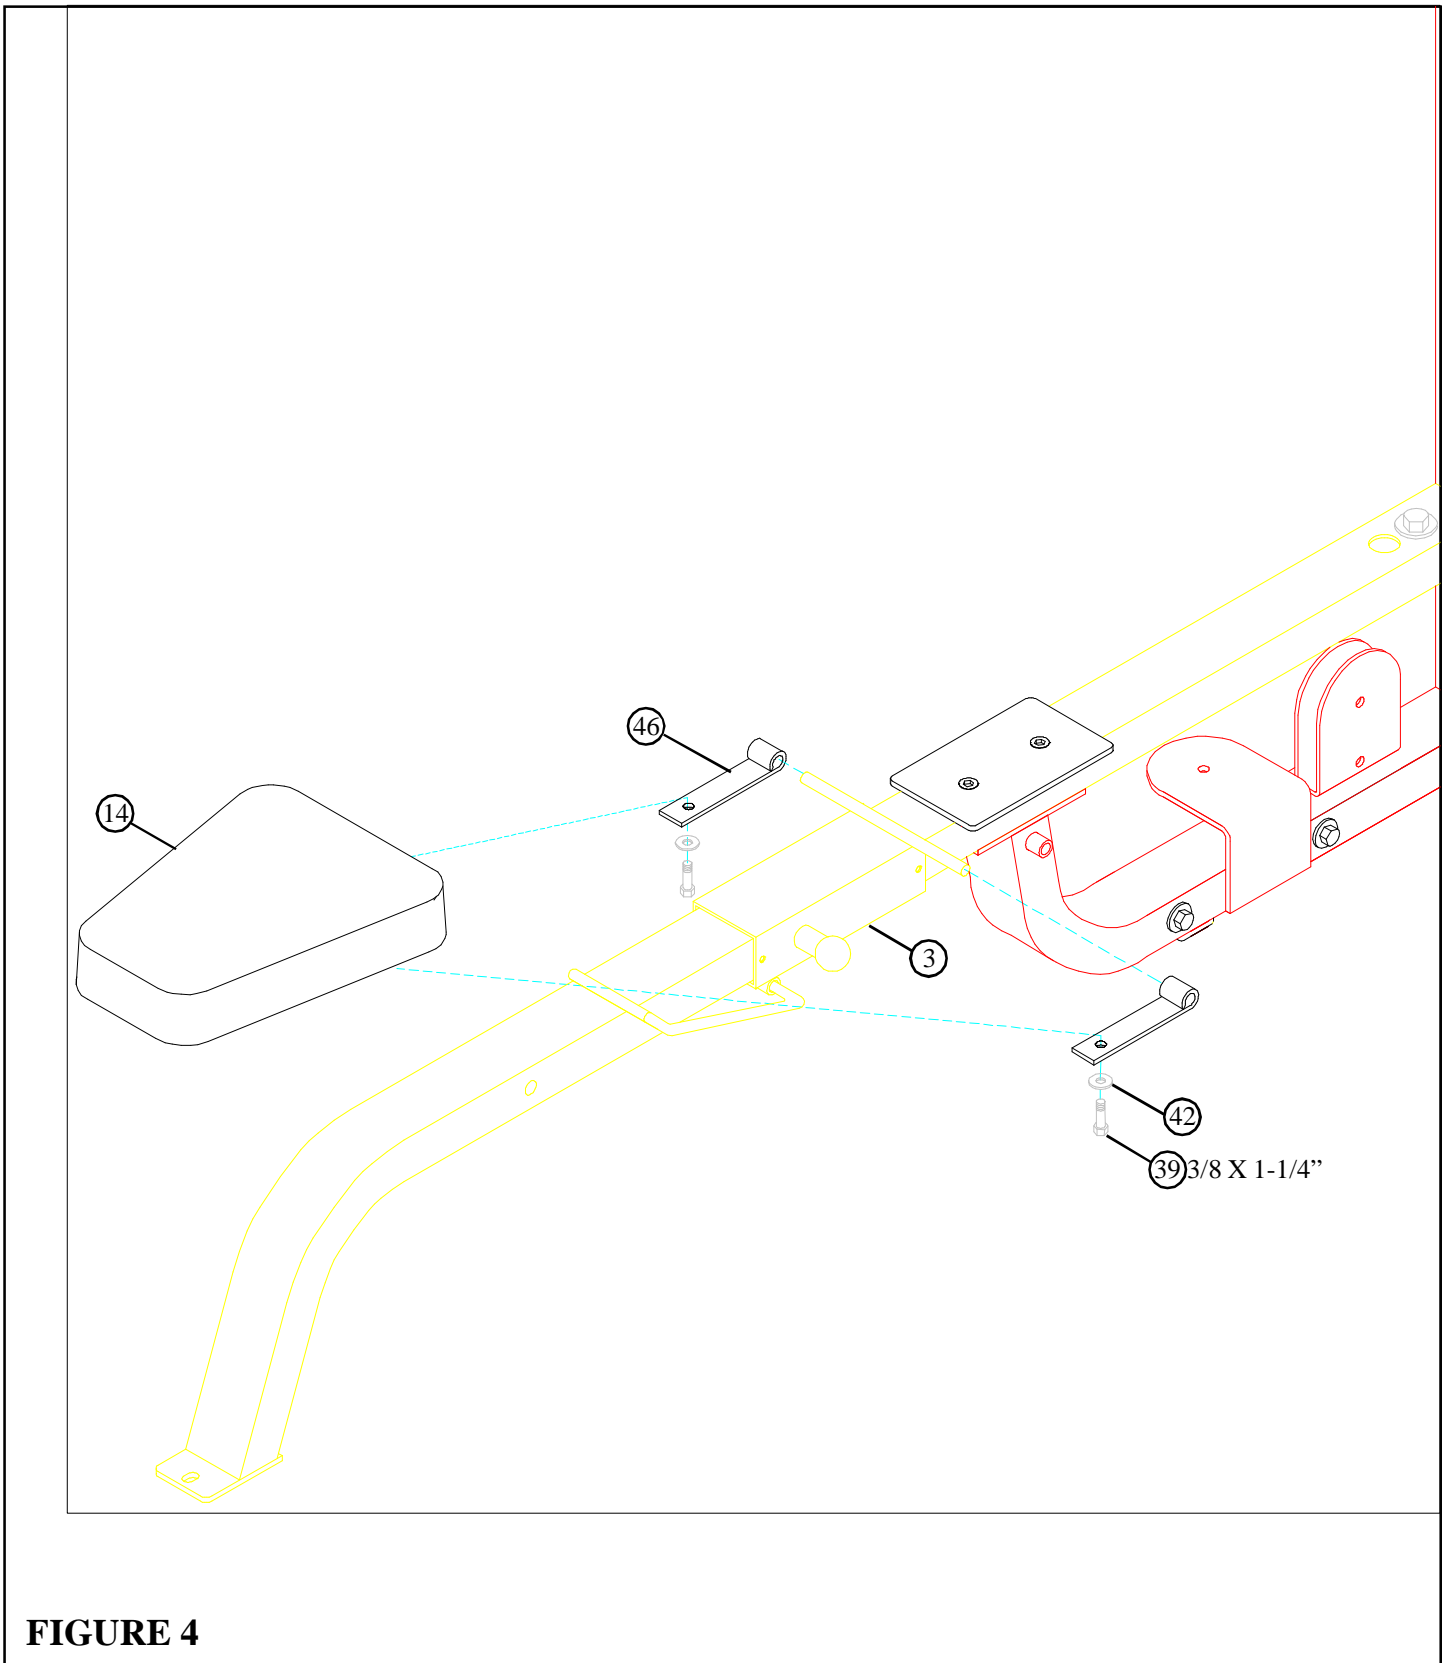

FIGURE 4
- Slide two HINGE TABS (46) onto the WOLFF SLEEVE (3) and **SECURELY** assemble SEAT PAD (14) using two 3/8 X 1-1/4" BOLTS (39), and two 3/8" WASHERS (42). See FIGURE 4. (**NOTE: Please note the HINGE TAB direction.**)